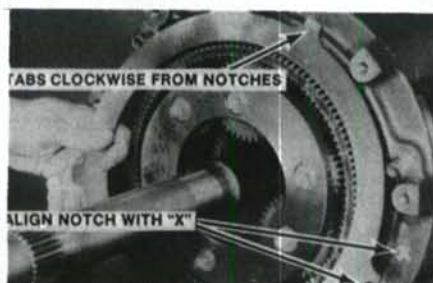

Fig. 168—View showing alignment of notches and tabs on C-4 steel clutch plate with "X" mark on carrier. Refer to text.
To reinstall C-1 and C-4 piston carrier (16—Fig. 165), renew any worn or damaged parts (items 1 through 26). Install seals and "O" rings on C-1 and C-4 pistons (11 and 21) as outlined for C-2 and C-3 pistons in paragraph 148, then install pistons into carrier (16). Lubricate inner and outer return springs (24) with petroleum jelly and install in recessed areas of power shift carrier (70). Install a C-4 friction disc (23) on ring gear, then install a C-4 steel plate (25), aligning notches in plate with "X" mark on power shift carrier, and tabs of plate clockwise from notches, see Fig. 168. Install second C-4 friction disc over steel plate. Install a 3/8 inch NC x 4 inch stud in top hole of power shift carrier to be used as a guide for piston carrier installation. Install second C-4 steel plate on piston carrier aligning notches in plate with dowels (26—Fig. 165) in carrier and tabs on plate clockwise from dowels. Install piston carrier assembly aligning dowel pins with notches on steel plate on ring gear, and two oil distributor holes at left same as oil distributor holes in power shift carrier. Tabs on second steel plate (22) must contact return springs (24) in power shift carrier. Install the nine cap screws with hardened washers and tighten to 35-42 ft.-lbs. (47-57 N·m) torque.